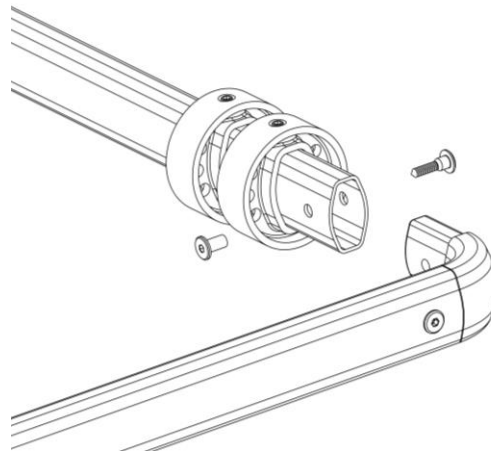

Fig. 17
8. Connect the 2 side arms, using the 3rd pipe, by sliding it over the 90° corners installed in the side arms and bolt in place (see Fig.17.)